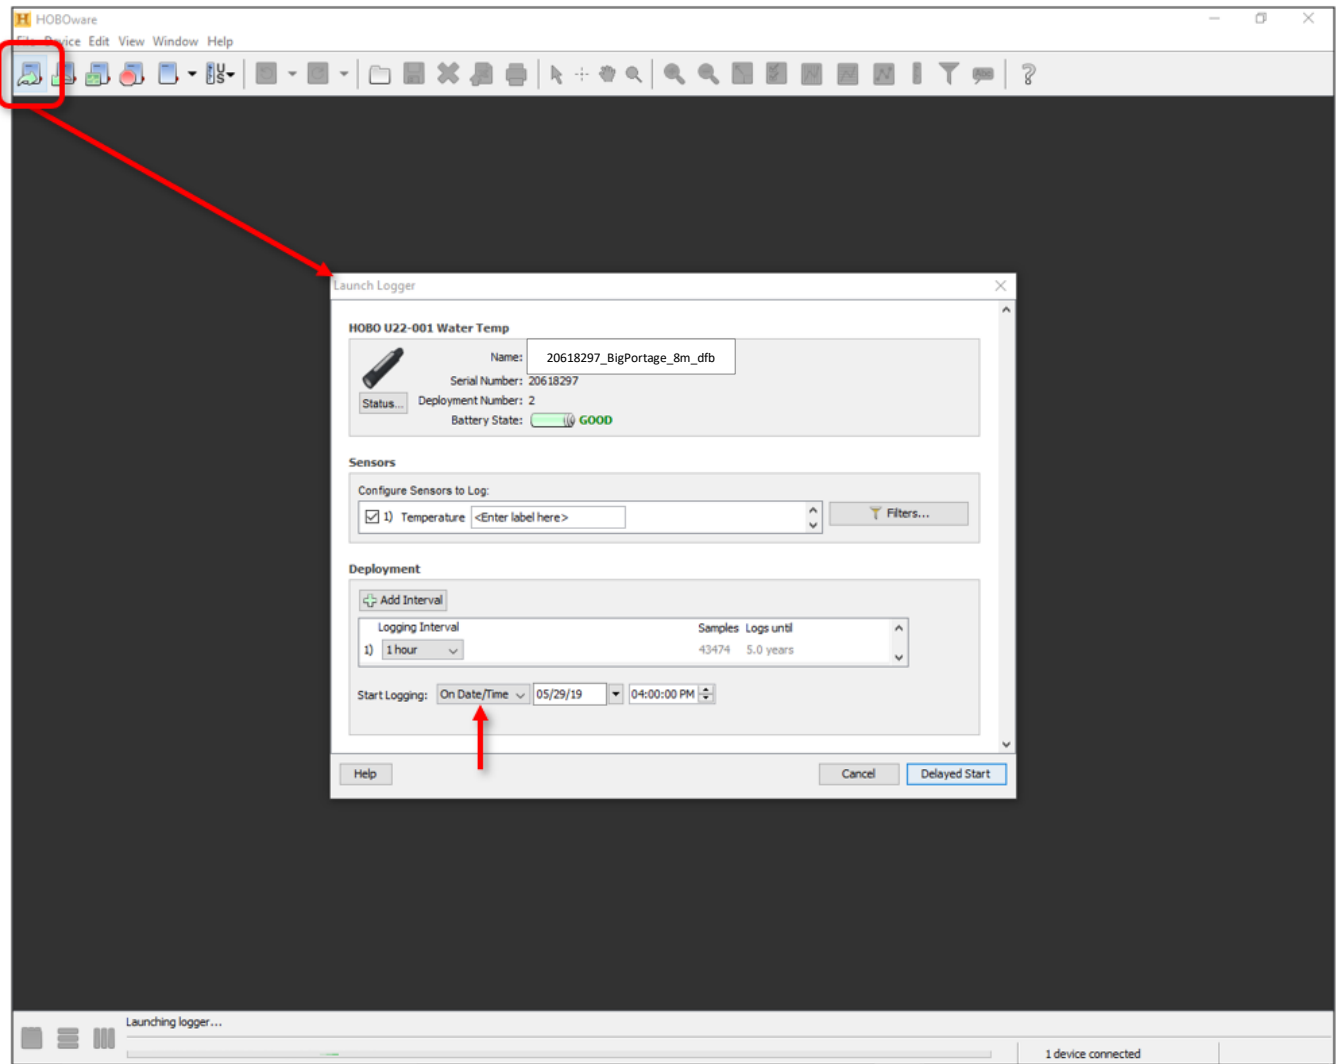

Figure 9. Launch the logger.
9. Double check your depths and then attach loggers with two zip ties (or paracord) by threading through the braid of the rope. Write the serial number and depth (include units and depth/distance from top or bottom, dfb/dfs) of each logger on a piece of paper. Use masking tape to label the depth of each logger (e.g., 8 m dfb). This will avoid confusion when launching and deploying the logger chain later, and this information should also be recorded in the master tracking Excel file (see Section 12). Note that the loggers are designed to be slightly buoyant and will float upward if not tightly secured. You will need to add a small weight (e.g., chain link) to the logger suspended from the navigation buoy. HOBOT Dissolved oxygen loggers must be installed vertically with the sensor on top. Thread two zip ties through the hole of the DO logger and place another zip tie around the body of the logger toward the top to stabilize it against the rope (Figure 9).